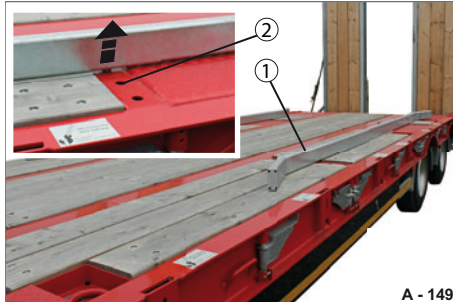

Fig. 145 Adjusting safety rails
- ▶ Raise the safety rails (Fig. 145/1).
- ▶ Insert the safety rails into the appropriate perforation (Fig. 145/2).